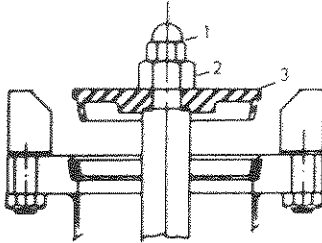

Fig. 1
1. Open valve as shown in Fig. 1. Remove nut #1 while holding nut #2 with wrench. This will prevent stem from turning. Next remove disc #3. A small teflon gasket is used between disc and stem. Do not damage or lose teflon gasket. Care should be taken when removing disc not to damage sealing surface.